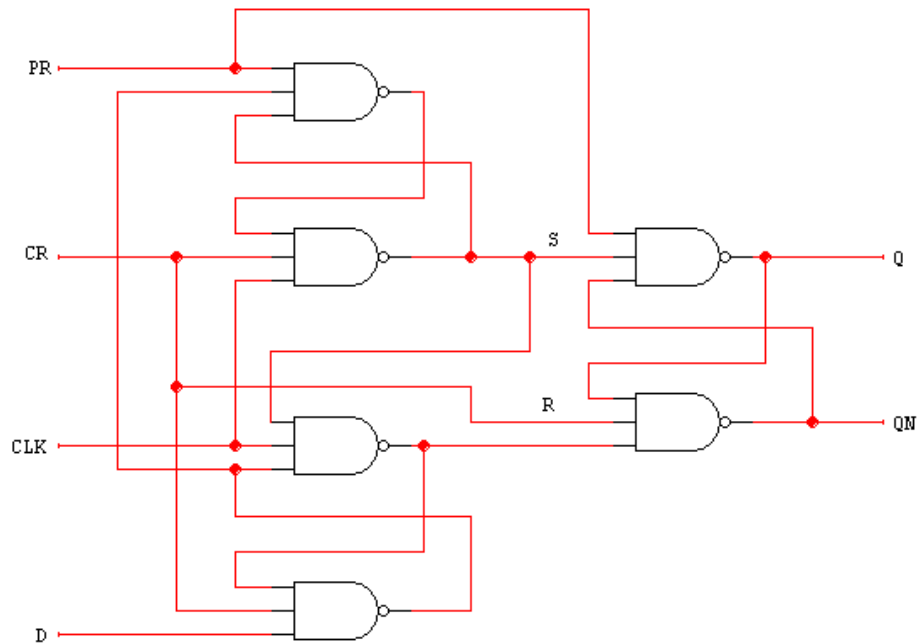

Figure 4-4: NAND gate version of the D Flip-Flop with Preset (PR) and Clear (CR)
Write a Data Flow model description for a NAND gate version of the D Flip-Flop with Preset (PR) and Clear (CR). The logic diagram for the NAND gate version is on Figure 4-4. Draw a Block diagram for your report with the signal names you used in your Hardware Description. Again, you should write the Verilog before lab class. Bring the file to lab class, compile and simulate. Download your Verilog solution to the CPLD-FPGA board. Test the D Flip-Flop and record your results in a function table like the one we did in lecture. Your function table should have the PR and CR signals. Show the waveform display (**Simulation**) in your lab report.